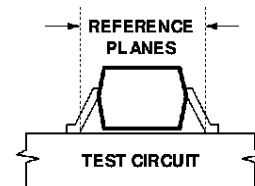

Figure 15. Phase Reference Planes.
5. Reference plane per Figure 15 in Applications Information section.
The positions of the reference planes used to measure S-Parameters for this device are shown in Figure 15. As seen in the illustration, the reference planes are located at the point where the package leads contact the test circuit.